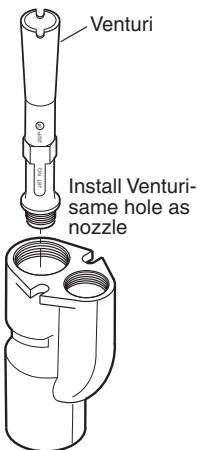

Figure 4
5. Install the venturi in the ejector body. The venturi threads into the second set of threads in the ejector discharge port (it threads in over the nozzle). The end of the venturi will extend out of the port when it is installed (See Figure 4).